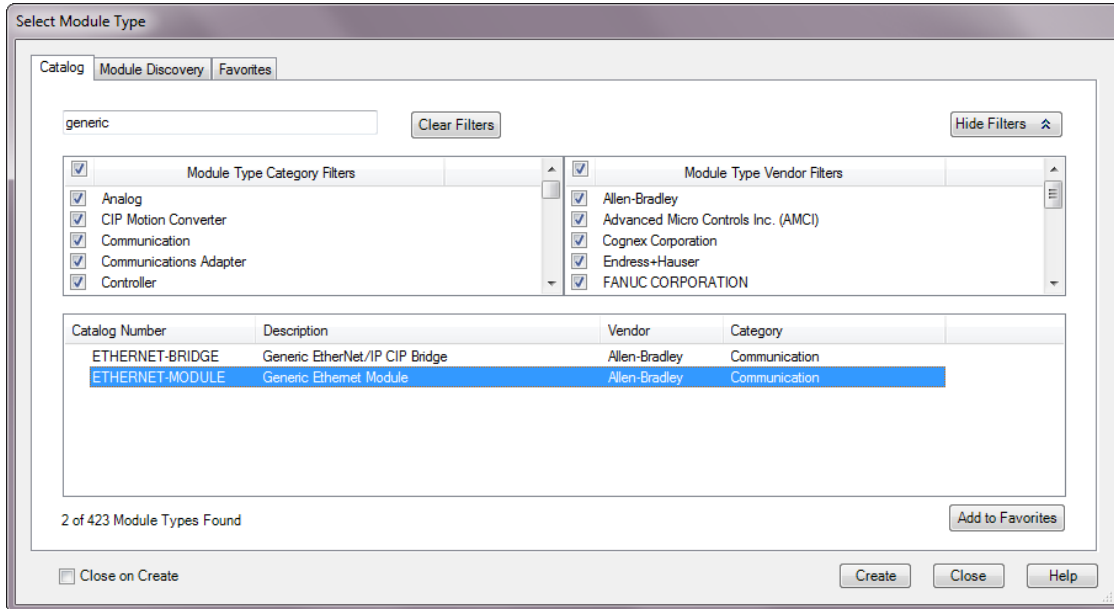

Figure T5.2 Selecting a Generic Device
- 2) In the resulting Select Module Type screen, type “generic” into the filter as shown in figure T5.2. This will limit the results in the Catalog Number list.